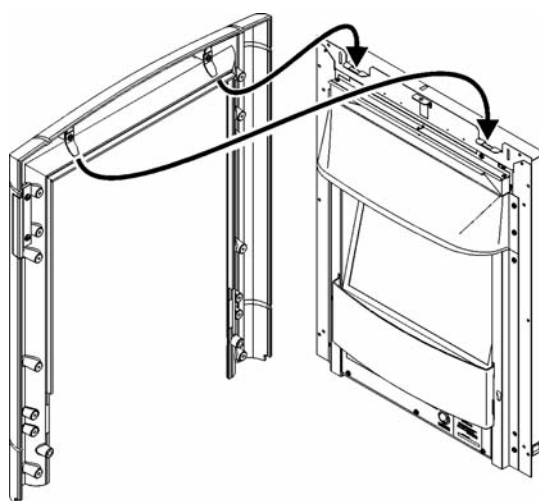

Figure 16.
3. Hold the fascia firmly and lift into place. Locate the fascia hanging brackets into those on top of the heater (See figure 16). Lower the fascia into place and swing the bottom of the fascia towards the heater.